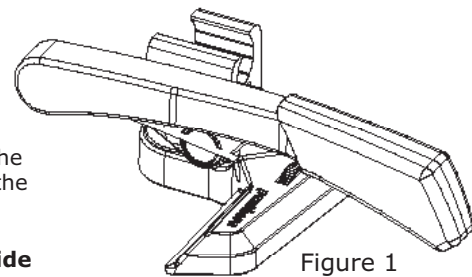

Figure 1
1. When you receive the high brake it will be assembled as shown in figure 1.